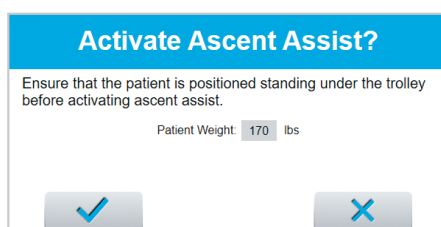

Figure 6-9:
3. A popup message will be displayed with instructions for confirming patient weight and ensuring that the patient is standing. If the displayed weight is incorrect, it must be updated prior to using this feature. See Figure 6-9.